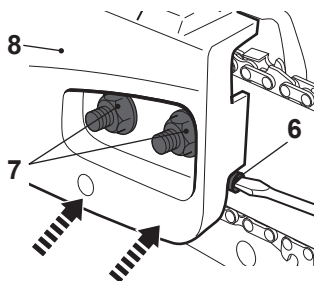

Fig. 12
- > Refit the cover (8) and fix it with the retaining nuts (7). Make sure the tension pin (6a) is inserted into the lower hole on the guide bar (Fig. 12).